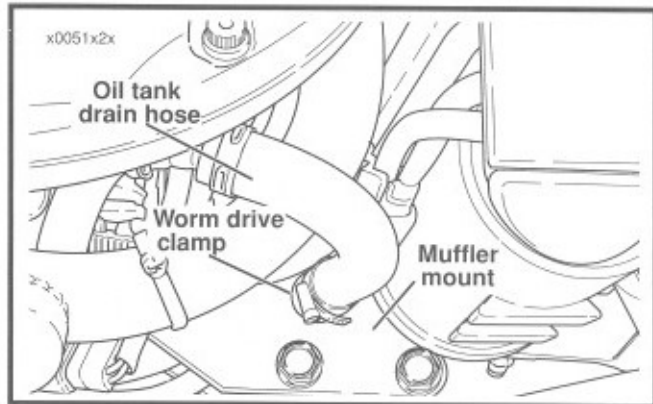

Figure 3-49. Secure Oil Tank Drain Hose
10. Use worm drive clamp to secure free end of oil tank drain hose to rear muffler mount lug. See Figure 3-49.